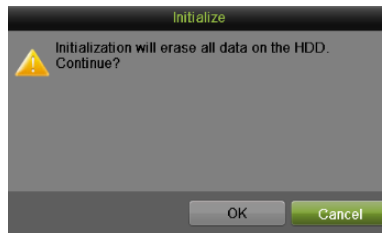

Figure 150 Disk Format Confirmation
4. A confirmation message, similar to the one shown in Figure 150 will appear on the screen. Click OK to continue formatting process.